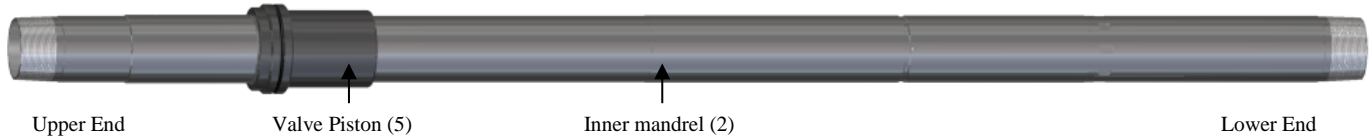

Fig. 3
L-2) From lower end of inner mandrel (2), slide valve piston (5) onto inner mandrel (2). Screw valve piston (5) onto inner mandrel (2) (Fig. 3).
L-4) Install o-rings (42, 44) into grooves on balance piston (4) (Fig. 3).